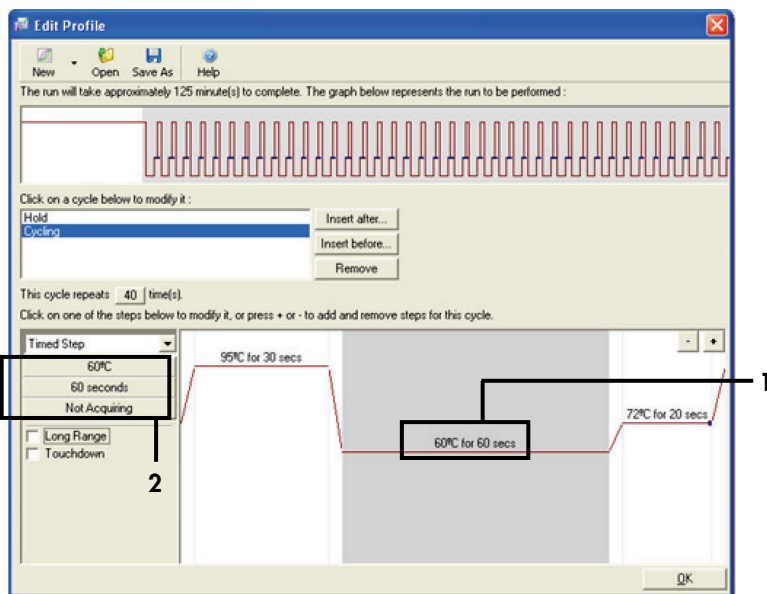

Figure 26. Cycling step at 60°C. 1 = Step two: temperature and time setting; 2 = "Not Acquiring."
9. Highlight the second step and set to **60°C** for **60 seconds**. Click **Not Acquiring** to enable data acquisition during this step. Figure 26).